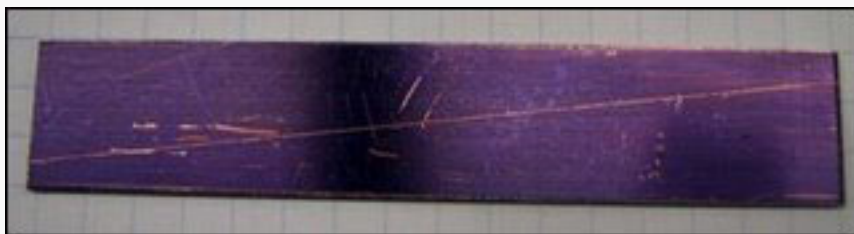

Figure 2. A diagonal line is scribed down the PCB, but ends about 1/8" from the inside corners.
1. The tweezers are made from 1/16" thick copper-clad PCB material. A single-sided board will do, but a two-sided board was used in this example. Cut a piece to 4" by 3/4" and scribe a diagonal line, not to the corners, but to points about 1/8" from inside the corners on the short edges (**Figure 2**).